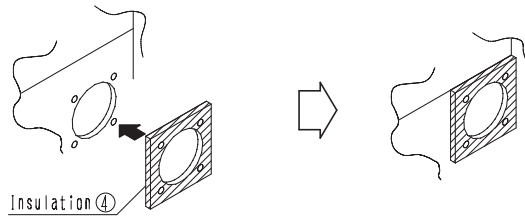

Fig. 2
- Adhere the insulation ④ for opening of unit to the opening, (Fig. 2)